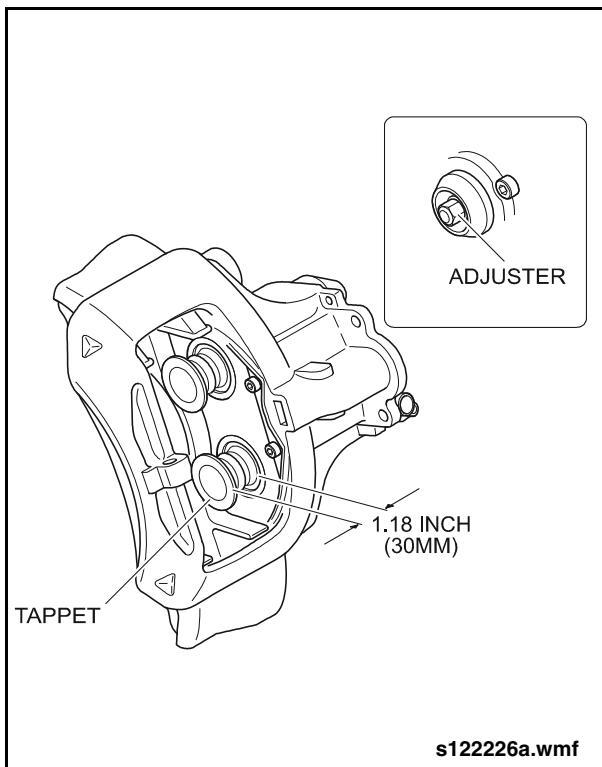

Fig. 1-65: Unscrewing Tappets
2. Rotate the adjuster clockwise until the tappets extend approximately 1.18" (30 mm) from the caliper surface. This will allow full extension of the tappet rubber boot for insertion of the removal tools. See "Fig. 1-65: Unscrewing Tappets" on page 70.